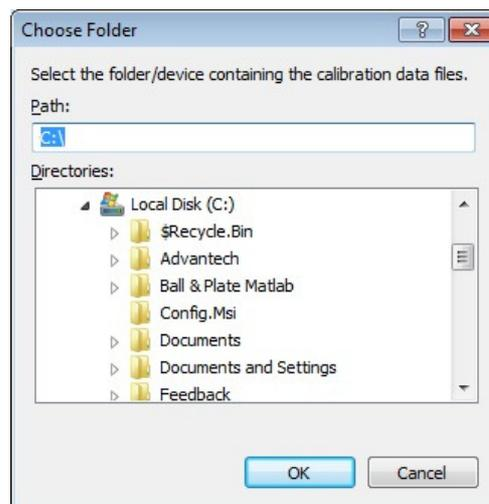

Figure 22 Choose Folder window
8. Next the Choose Folder window will open (Figure 22). Navigate to the USB memory stick and click 'OK' to continue.